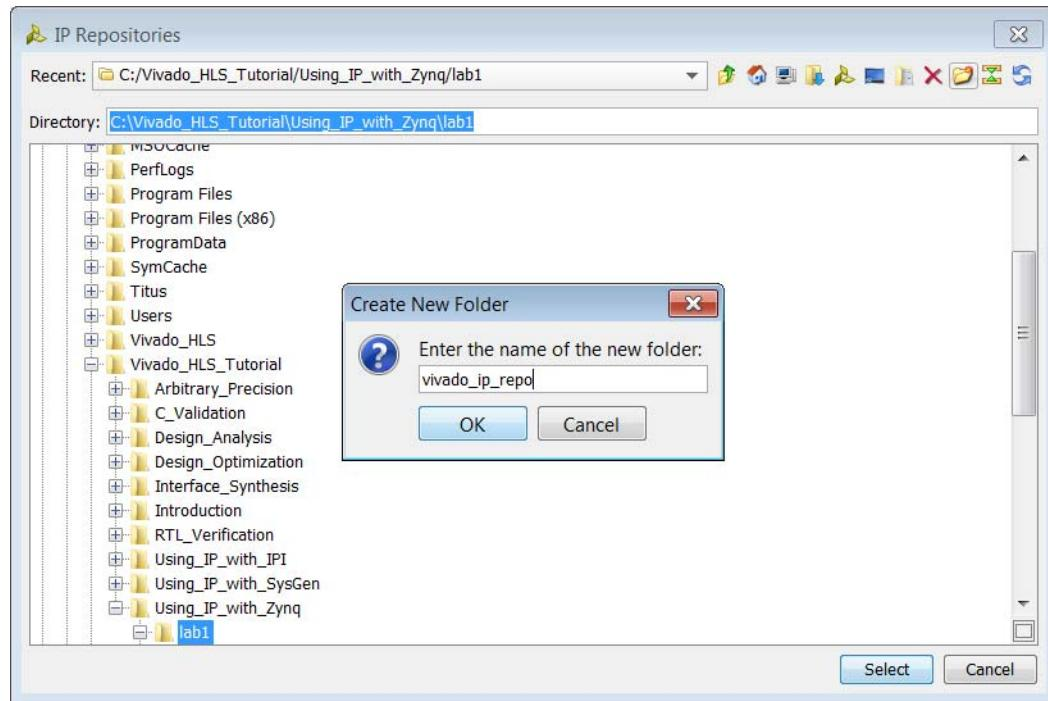

Figure 10-9: IP Repository
- b. Enter `vivado_ip_repo` in the resulting dialog (Figure 10-9).